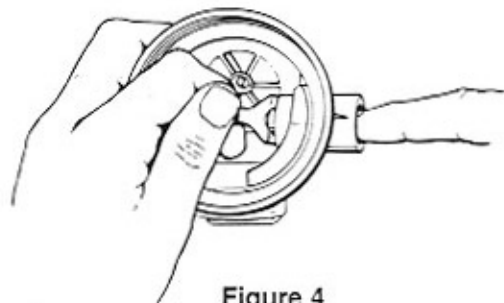

Figure 4
5. With the lever depressed, use a 3/4-inch wrench to unscrew counterclockwise and remove the inlet fitting (item 10). Remove and discard the inlet fitting external O-ring (item 9).
6. Place your finger into the inlet hole on the left side of the box bottom (item 12). Next, grasp the lever (item 8) with your other hand. Push in on the insert while pulling on the lever and remove the insert assembly (item 4). See figure 4.